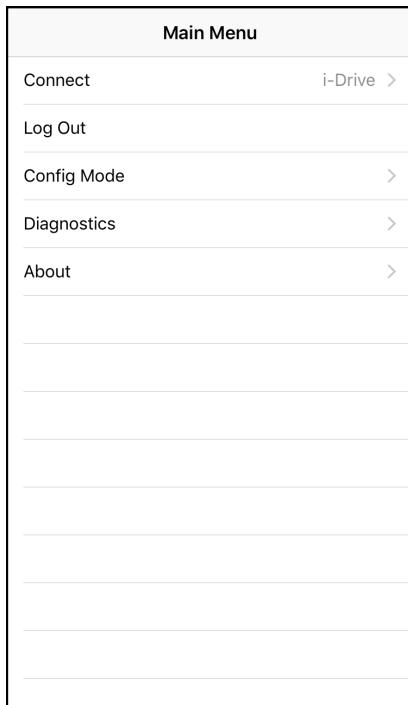

Figure 2
4. When you have successfully logged in and the App has located the i-Drive device, new options will appear in the *Main Menu*: *Config Mode*, *Diagnostics*, and *About* (*Figure 2*).